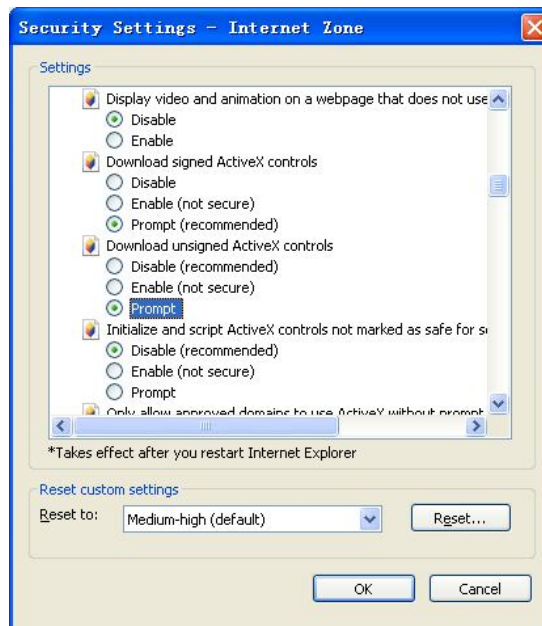

Fig. 1.4
① Open IE, Internet Zone- Modify configuration of ActiveX in Security setting, click “Prompt” of unsigned ActiveX as figure 1.4: